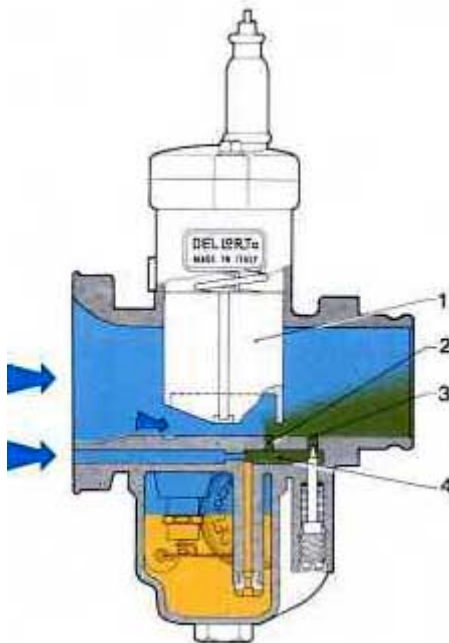

fig. 20
As previously noted, the idle hole(3) shown in figure 20, only delivers sufficient fuel for engine idle operation and the main circuit still does not deliver any fuel because of insufficient vacuum up stream of the throttle. The progression hole (2) is therefore necessary to deliver the fuel required during this transition period. The progression hole draws fuel from the idle circuit (4) and is positioned immediately upstream of the closing edge of the throttle slide (1) for the promptest response to fuel demand when the airflow suddenly increases.